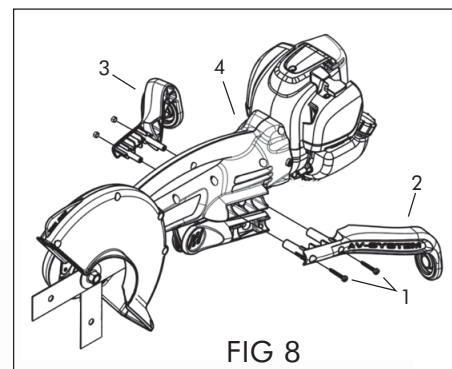

FIG 8
1. Undo 2 screws #1. See Fig. 8) Fit AV handle supports #2 & #3 by pushing fully into each side of the body #4. A soft hammer may be required. (Fig.8).
2. Re-fit screws #1 through #2 and into #3 and screw tightly. (Fig.8).